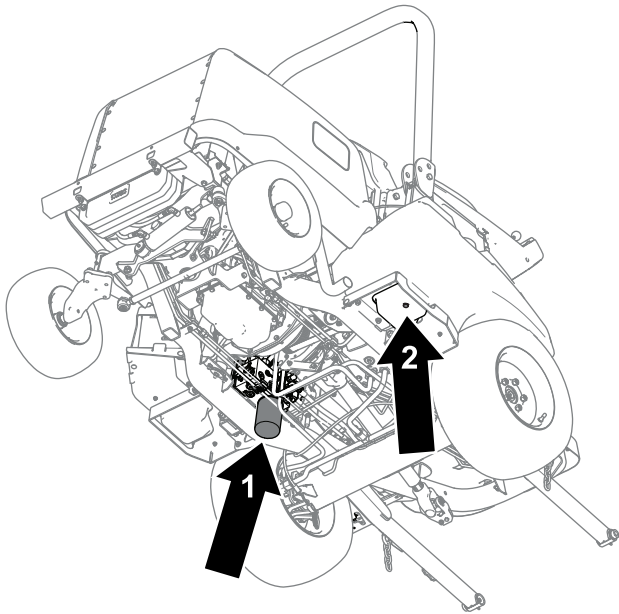

Figure 80
4. Remove the drain plug (Figure 80) from the bottom of the tank and let the hydraulic fluid flow into the pan.
6. Place a drain pan under the filter (Figure 80), remove the filter, and let any remaining oil drain into the pan.